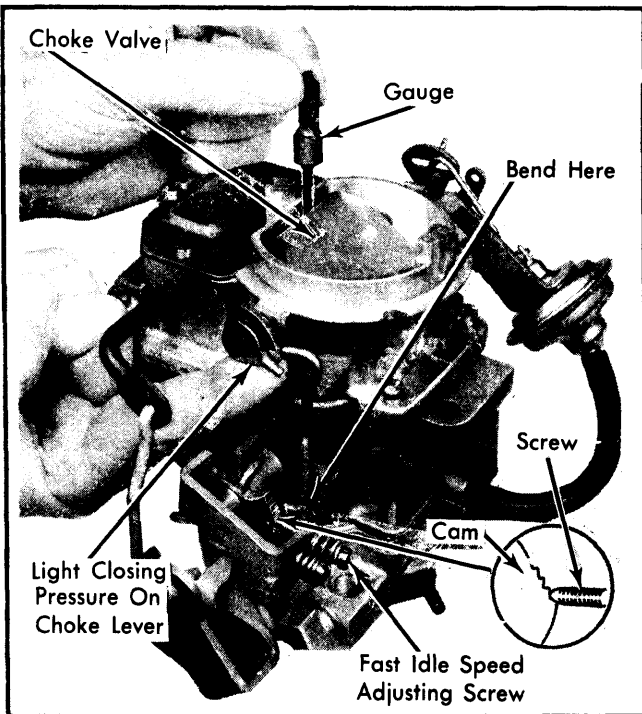

Fig. 5 Adjusting Fast Idle Cam Position
- 1) Remove torque-head screws and position choke cover $\frac{1}{4}$ turn rich. Retain with 1 straight-slot screw to hold choke cover in position. See Fig. 5.